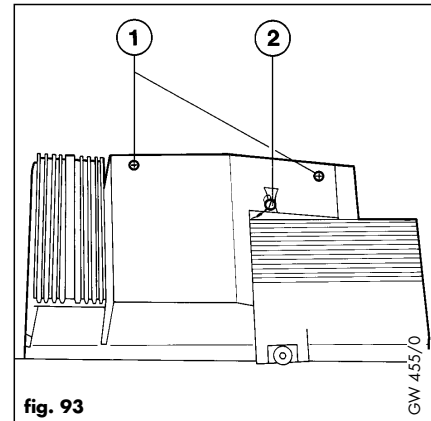

fig. 93
- Remove back of control box by undoing the two screws (1, fig. 93).